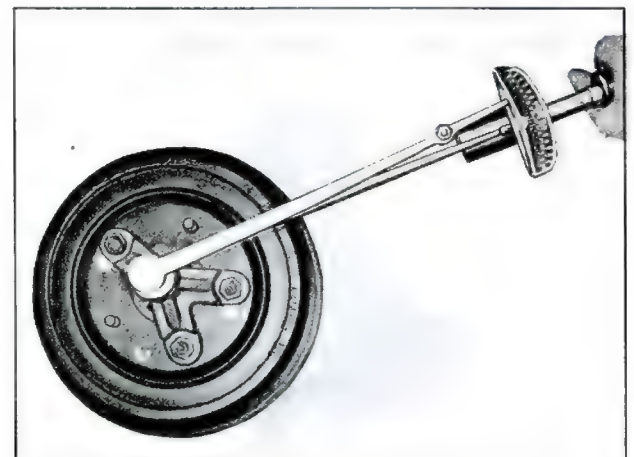

Fig. 53—Measuring Positraction Rotating Torque
3. Install Tool J-5748 with Adapter J-2619-4 to rear wheel studs (fig. 53).